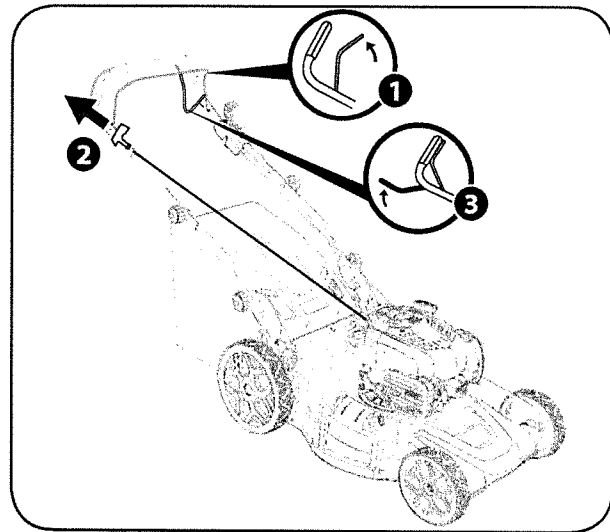

Figure 11
1. Standing behind the mower, pull the blade control handle back against the upper handle (Figure 11).
2. While holding the blade control against the upper handle, grasp the recoil starter handle and pull rope out with a rapid, continuous, full arm stroke (Figure 11). Keeping a firm grip on the starter handle, let the rope rewind slowly. Repeat until engine starts. Let the rope rewind each time slowly.
1. Hold the blade control against the upper handle (Figure 11).
2. Start the engine (Figure 11).
3. Once the engine is running, pull and hold the drive control handle together with the blade control handle to propel the mower forward at the speed set on the speed control lever (Figure 11). Once pressure is released from the drive control it will return to the neutral position and the drive will be disengaged.